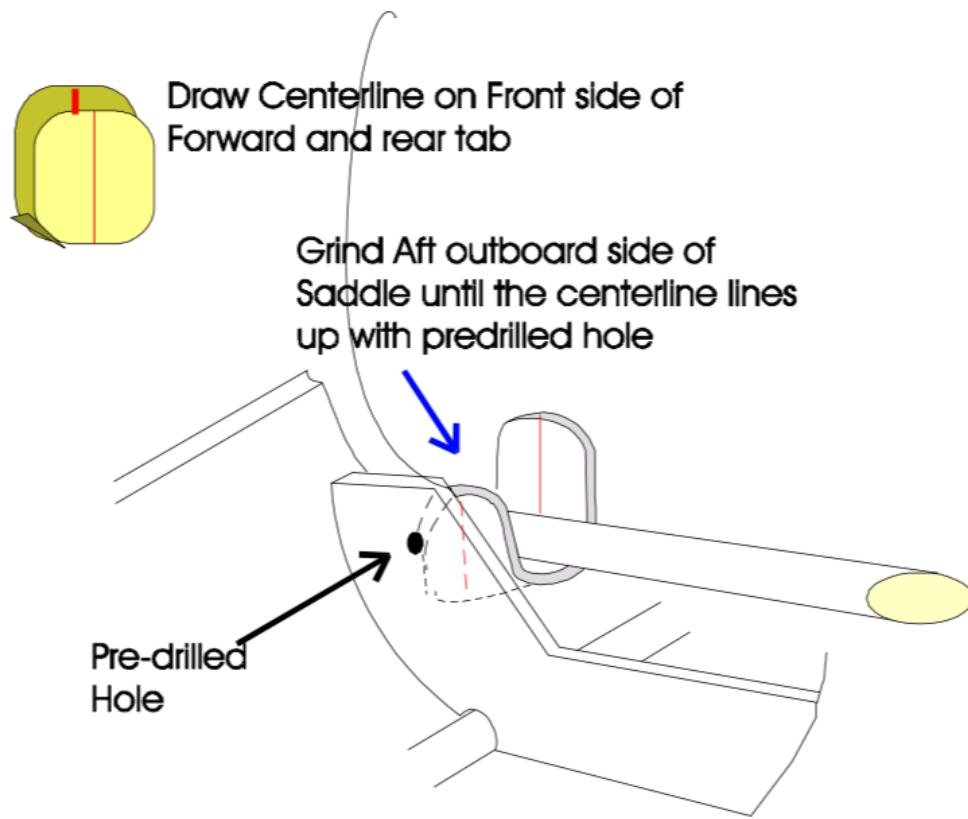

Figure 7-3. Gear Saddle Fitting
- ___ Cut sixteen (16) pieces of **TRIAX**, orientation on the long dimension, the same size as the outer surface of the saddles.
- ___ Layup eight (8) pieces on a piece of plastic, let cure until tacky, and apply them to the outer edge of each saddle. Pre-wet the saddle with fresh epoxy before applying the layers. After cure, trim the **TRIAX** to the edge of the saddle.
- ___ Mark a vertical centerline on the forward side of both the rear tab and the forward tab on each saddle. Reference figure 7-3.